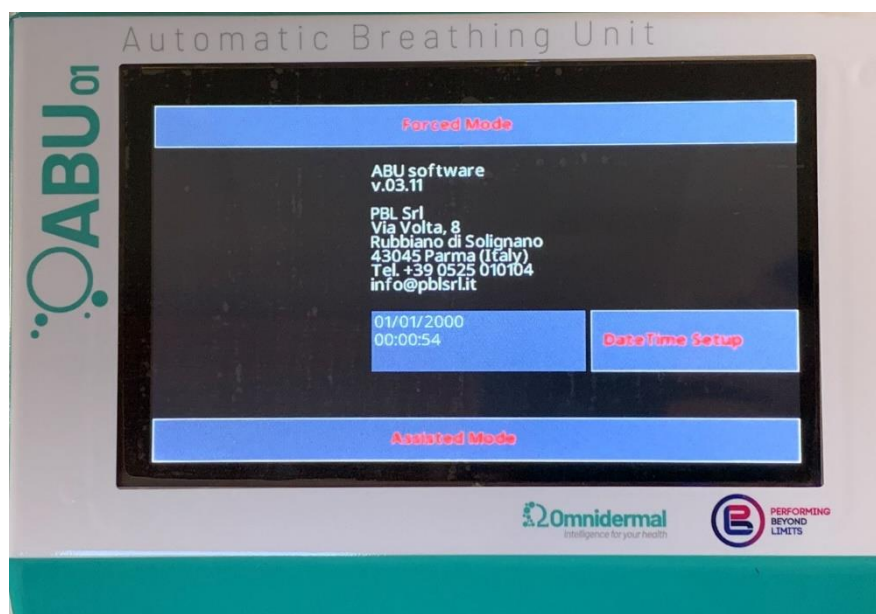
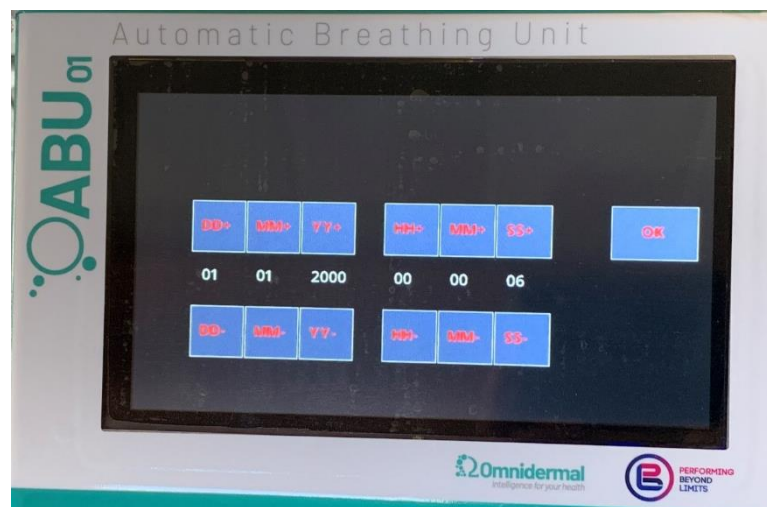

Figure 6.3. ‘Welcome Menu’
Figure 6.4. 'Date Time Setup' page.
- The ‘Welcome Menu’ shown in Figure 6.3 below appears:
To set Date and Time press the 'Date Time Setup' button on the Welcome Menu as shown in Figure 6.3 above. The system will show the 'Date Time Setup' page as shown in Figure 6.4.